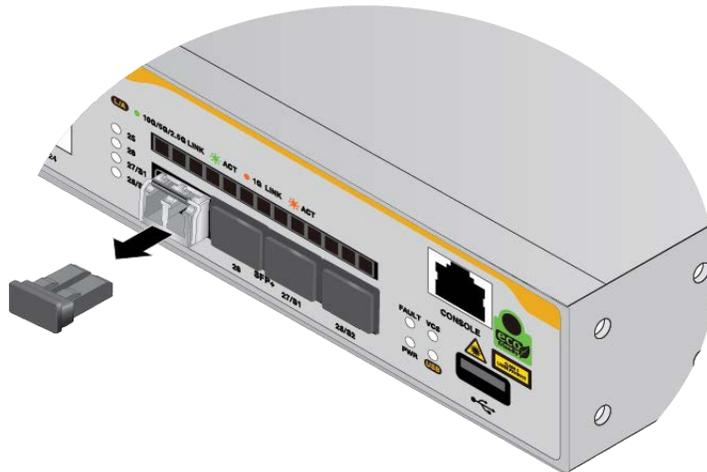

Figure 68. Removing the Dust Cover from an SFP or SFP+ Transceiver
5. Remove the dust cover from the transceiver. Refer to Figure 68.
1. If the SFP+ port has a dust cover, remove it. Refer to Figure 68 on page 134.